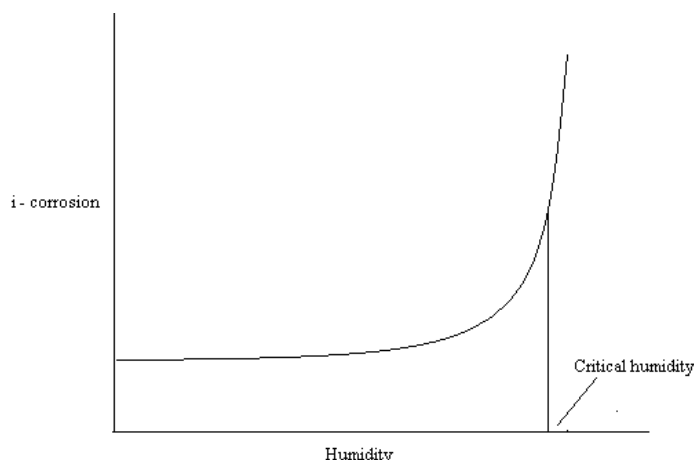

Fig. 2.7: Critical humidity
(4) Conductance of the medium: Conducting species in the corrosive medium increases the corrosion rate. Because corrosion is an electrochemical phenomenon which involves the transfer of electrons and ions. The rate of corrosion in a dry atmosphere is less than that in a wet atmosphere since the latter is more conducting.
(5) Humidity: is the deciding factor in atmospheric corrosion. At low relative humidity rate of corrosion is slow, as the humidity increases in the medium, the corrosion rate gradually increases. Metallic corrosion is very high above critical humidity. *Critical humidity* is defined as the relative humidity above which the corrosion of metals increases sharply (Fig. 2.7). The value of *Critical humidity* depends on the physical characteristics of metals as well as the nature of corrosion product.